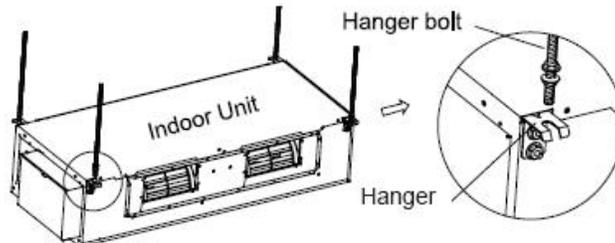

Fig.4.5
3. Install the hanger to the unit. (Fig. 4.5)